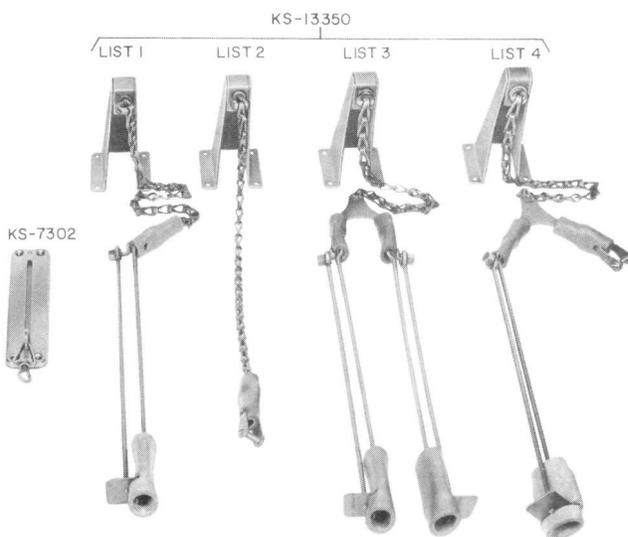

Fig. 1 — Directory Hangers
2.01 Fig. 1 shows the KS-7302 and the KS-13350-type directory hangers.